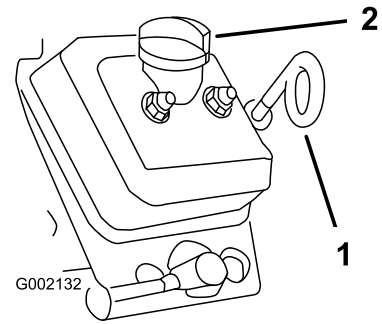

**Figure 32**
5. Fill the crankcase with the specified oil (Figure 32).